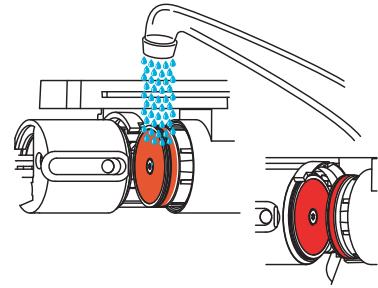

Figure 4-14
6. Thoroughly rinse the brewer under the tap (see figure 4-14).